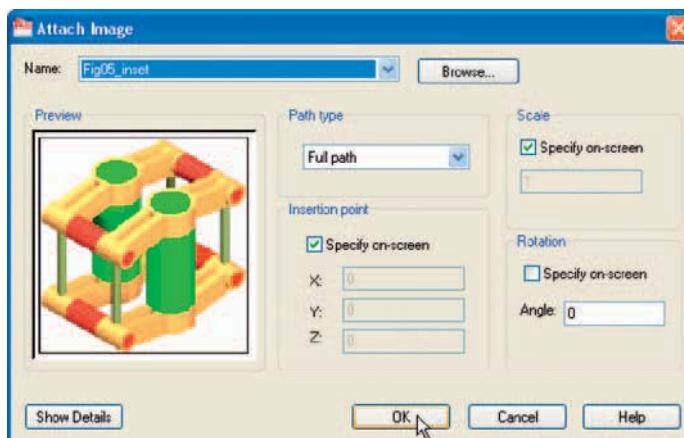

Fig. 10.10 The Attach Image dialog
- Click the Open button of the dialog. The Attach Image dialog appears (Fig. 10.10) showing a preview of the bitmap image.*